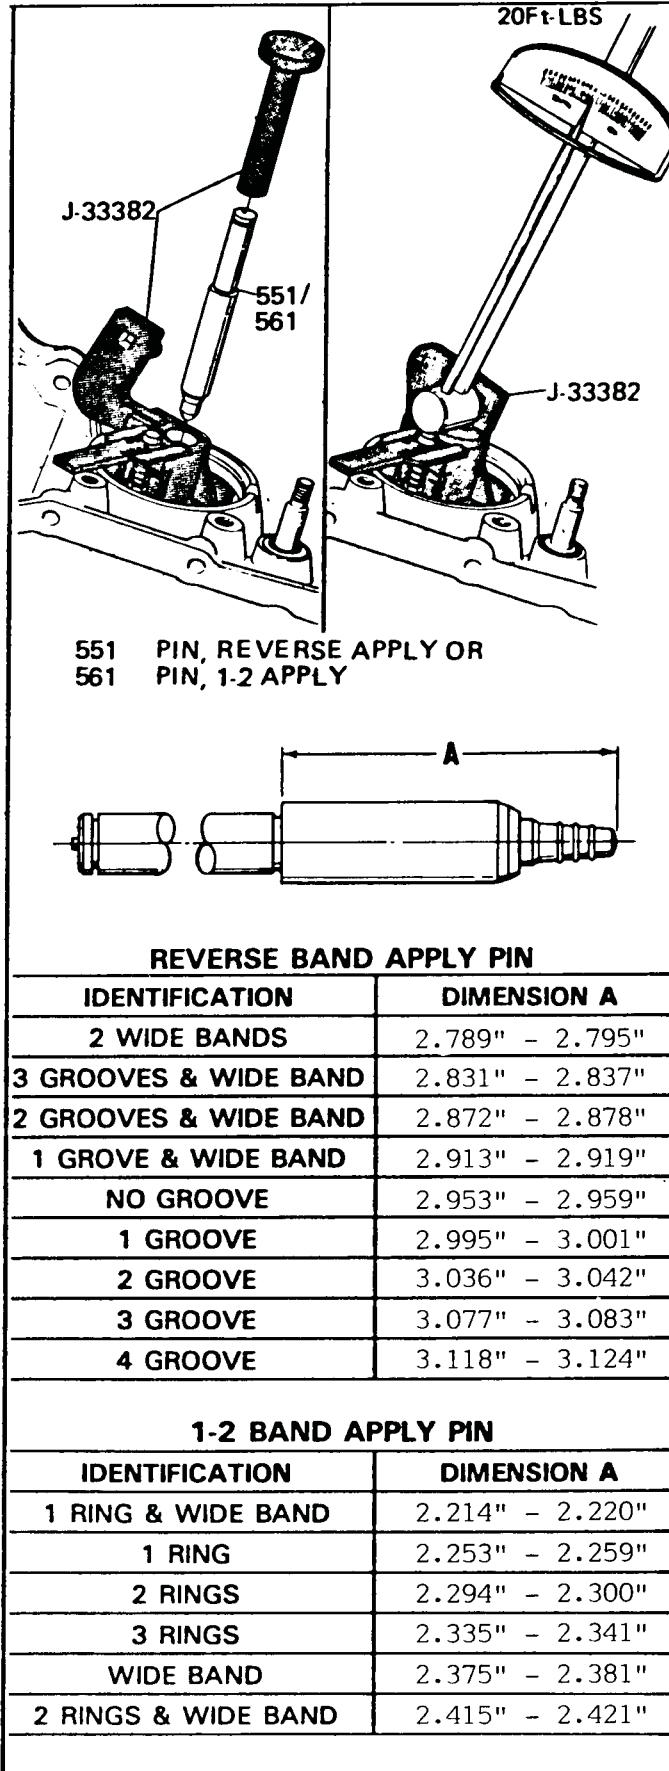

Figure 36
6. Using the proper apply pin with J-33382 tool (Figure 36), measure for correct servo pin length.
1. Install J-33382 tool as shown in Figure 36. Use the reverse servo pin for checking the reverse servo, and the 1-2 pin for checking the 1-2 servo. They are different lengths.
2. Apply 20 ft. lbs. torque to the tool as shown in Figure 36.